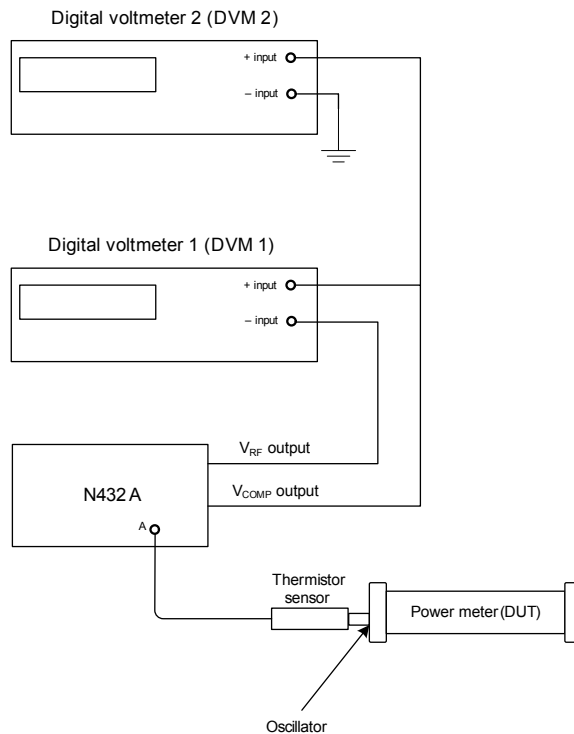

Figure 2-46 Connection diagram for VSWR measurement
- 22** Now, set up the connections shown in Figure 2-46. Connect the N432A rear panel V_{RF} output connector to the negative input lead of DVM 1. Connect the N432A rear panel V_{COMP} output connector to the positive input leads of both DVMs.
29 Now, set the N432A bridge resistance to 100 Ω . Again, set up the connections shown in Figure 2-46.